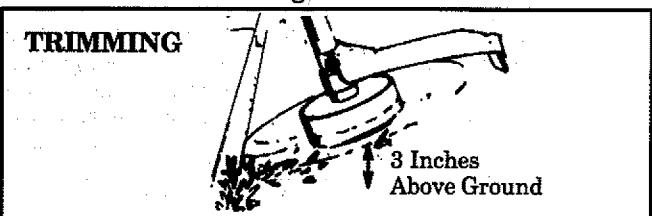

Figure 12
1. **TRIMMING** - Figure 12 . Hold the bottom of the trimmer head about 3 inches (7.5 cm) above the ground and at an angle. Allow only the tip of the line to make contact. Do not force the trimmer line into the work area.